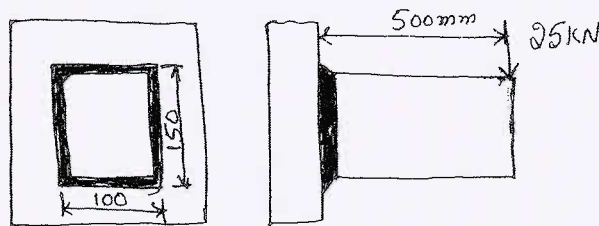

Fig.Q7(b)
- 6 a. A rectangular sunk key 14 mm wide  $\times$  10 mm thick  $\times$  75 mm long is required to transmit 1200 Nm torque from a 50 mm diameter solid shaft. Determine whether the length is sufficient or not if the permissible shear stress and crushing stress are limited to 56 MPa and 168 MPa respectively. (06 Marks)
- b. Determine the size of weld required for the joint shown in Fig.Q7(b), if the allowable shear stress in the weld is limited to 80 N/mm2.